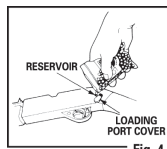

Fig. 4
- Locate the BB loading port on the left side of the receiver. (Fig. 4)
- Pour no more than 200 BBs into the hole (Fig. 4). Do not put pellets in the reservoir hole because they will jam the reservoir.